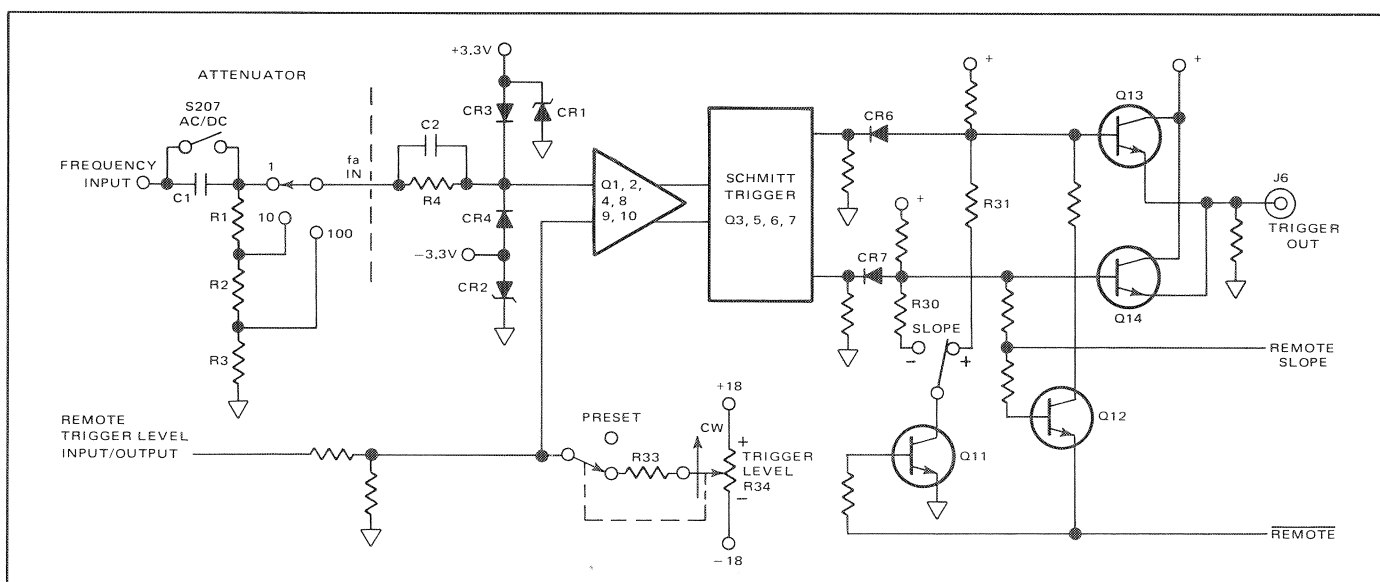

Figure 4.14 - Signal Conditioning Block Diagram
#### 4.52 CHANNEL A ATTENUATOR (figure 4.14).
4.55 As shown in figure 4.14, the signal from the channel A attenuator ( $f_a$  in) flows through emitter follower circuits Q1 and Q2. Transistors Q4 and Q8 form a gain stage to drive the input side of a Schmitt trigger consisting of transistors Q3, Q5, Q6, and Q7. The signal from the attenuator is prevented from exceeding  $\pm 4$  volts by clamp zener diodes CR1, CR2 and diodes CR3 and CR4. The trigger level of the trigger circuit is determined by the potential applied to the input of the follower circuits consisting of Q9 and Q10. With PRESET selected (the extreme counter-clockwise position of the front panel trigger level